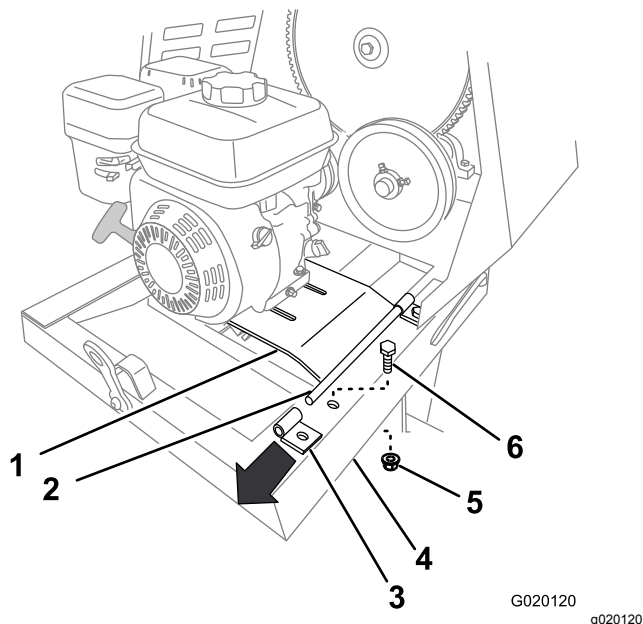

Figure 48
8. Remove the bolt and nut that secure the rear bracket for the engine deck hinge to the frame of the machine (Figure 48).
9. Lift up the rear edge of the engine deck and remove the hinge bracket (Figure 48).
6. Secure the rear bracket to the frame of the machine using the bolt and nut (Figure 48) removed in step 8 of Removing the Engine \(page 34\).